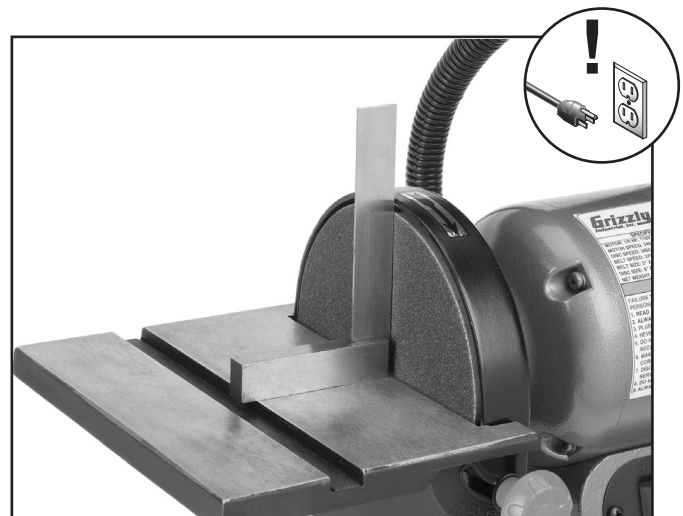

Figure 5. Squaring disc table.
2. Using a machinist's square, set one edge on the table surface and the other against the face of the disc as shown in **Figure 5**.